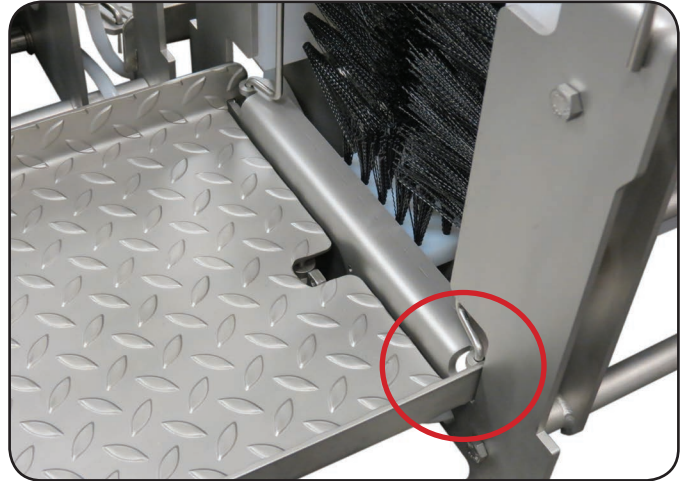

Figure 9
3. Figure 9 shows proper footplate placement.